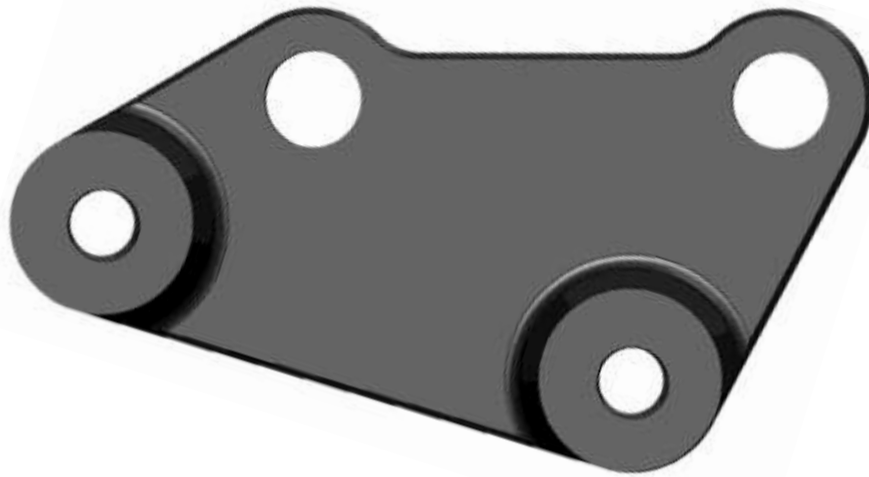

Figure 41
6. Locate the Dual Idler Bracket (#61) and the bolt removed from *Step 5*, as well as the (1) one top bolt removed in *Step 4*. Secure the Dual Idler Bracket to the engine with the (2) two bolts as shown below. Torque the bolts to **51-58 ft-lbs.** *Figure 41.*